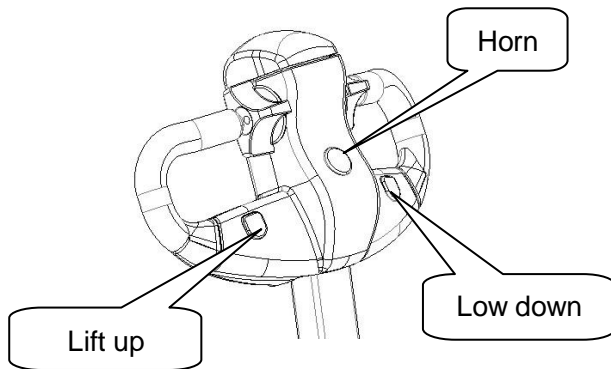

figure 1-5
3.4 Lift up and down button, horn button, see details in figure1-5